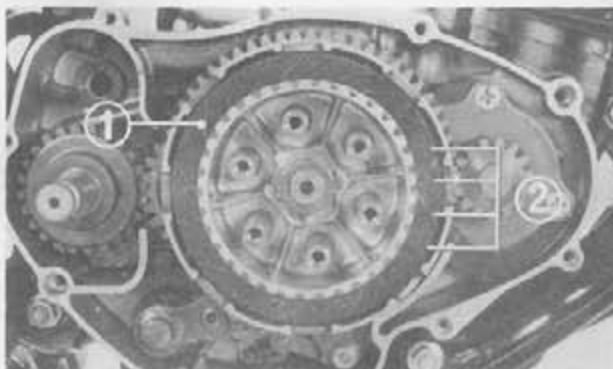

Fig. 3-33 (1) Clutch friction disc
(2) Clutch center
4. Install the six friction discs and five clutch plates on the clutch center (alternating the friction discs and clutch plates). The friction discs must be installed with the grooves facing in the direction shown in Fig. 3-33.